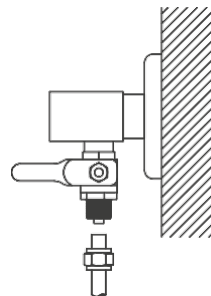

Fig. 8: Water inlet valve
- By opening the 1/4" ball valve, the tap water is supplied to the system (Fig. 8). The pump
logically unsafe water. Install the system with its own power supply unit. If there is no one in the house, we recommend that you close the water inlet valve for safety reasons (Fig. 8). Repairs have to be carried out by qualified personnel.